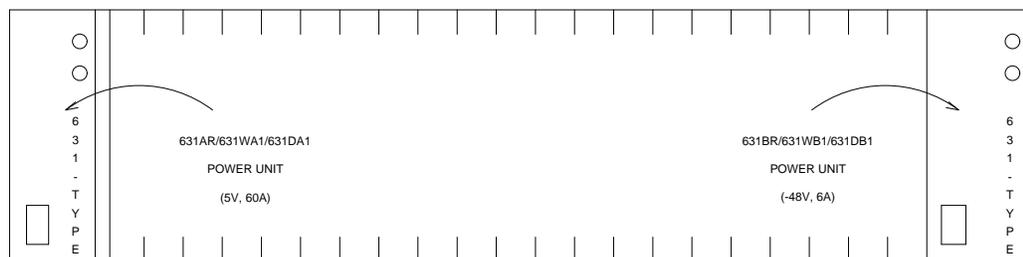

Figure 4-16. Locations of Power Units
8. For an upgrade to an AC-powered G3i V4, install the 631-type power units (removed from the R1V3) into the "C" carrier. There are three different pairs of power units available. They are the 631AR1 and 631BR1, the 631WA1 and 631WB1, and the 631DA1 and 631DB1. Do not interchange the units. The 631AR1, 631WA1, or 631DA1 are installed in the left side, while the 631BR1, 631WB1, or 631DB1 are installed in the right side (see Figure 4-16).